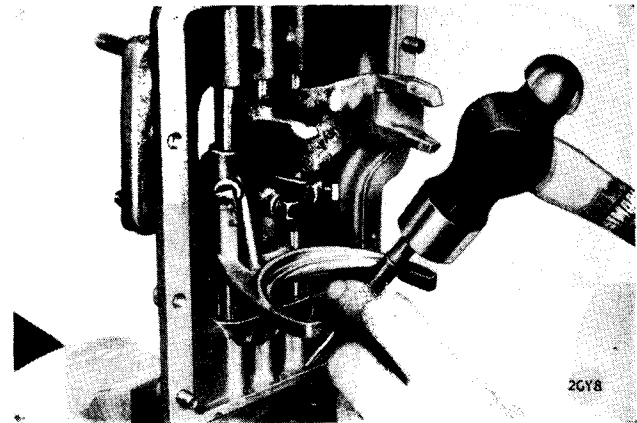

Fig. 15. Removing plugs from top cover
Dismantle the selector shaft and fork assemblies by driving out the plugs (108) with a $\frac{1}{8}$ " (3.17 mm.) dia. pin punch as shown in Fig. 15, ensuring that the selector shafts are clear.